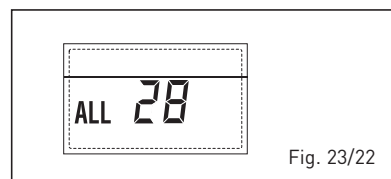

Fig. 23/22
**- ERROR NUMBERS RELATED BOARD "ALL 29" (fig. 23/23)**